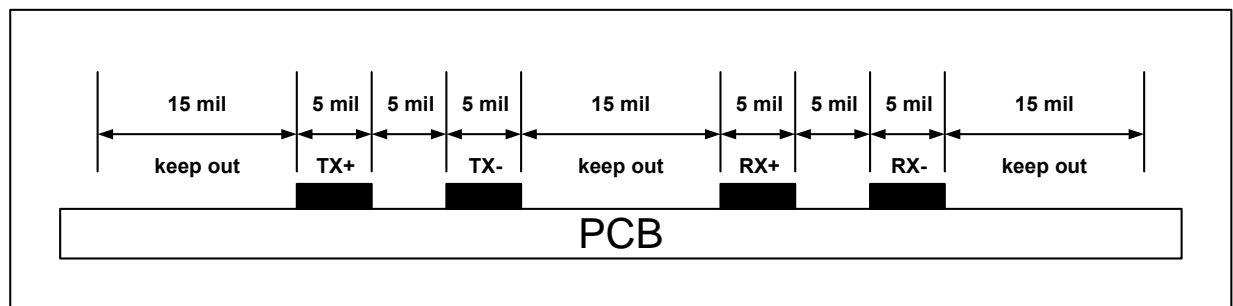

Figure 2: Transmit/Receive Differential Pair
- Route transmit and receive differential pairs using 5 mil trace width and 5 mil spacing. See Figure 2.